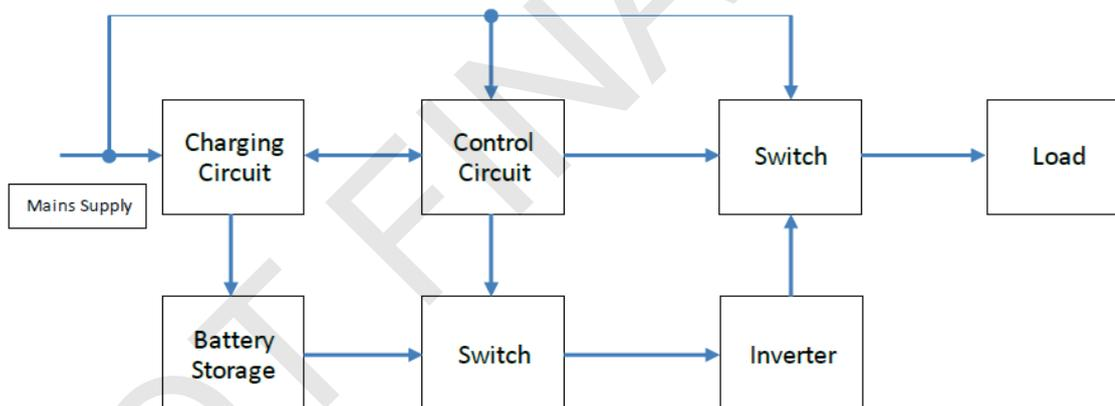

Figure 10.16 Simplified block diagram of a UPS
A block diagram of a typical UPS is shown in Figure 10.16.
- **Standby/offline:** a standby UPS only comes into operation once an outage or power quality issue on the mains side is detected. The battery storage is kept fully charged until it is required to supply energy to the load. The block diagram of this configuration of UPS is shown in Figure 10.16.
2. Use the block diagram of Figure 10.16 as a template to show the energy path from the mains supply to the load for: